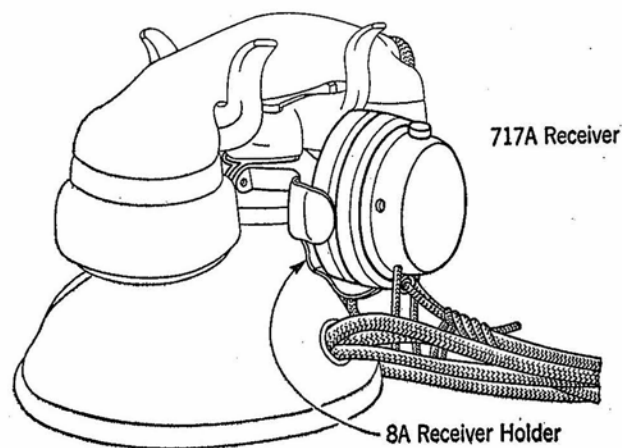

Fig. 1 — Installation of 8A Receiver Holder
3.05 The 8A receiver holder should be installed on D-type handset mounting as shown in Fig. 1.